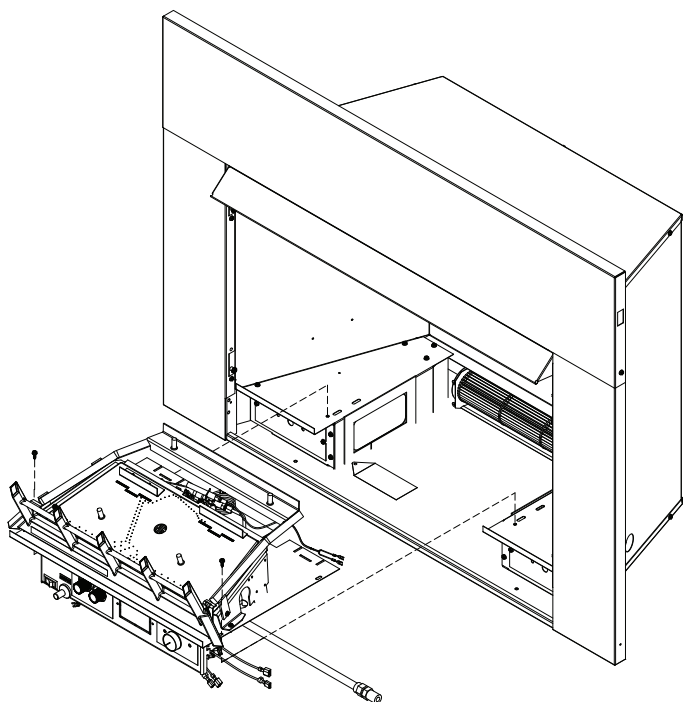
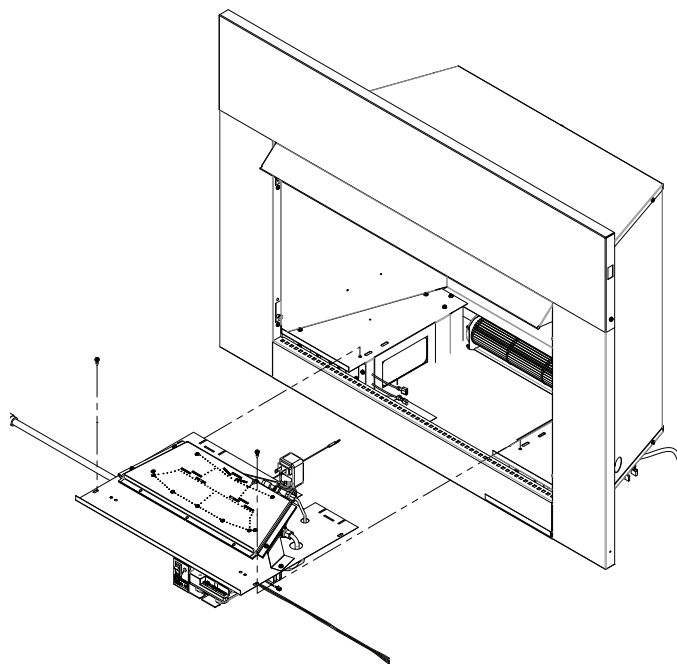

Figure 13. Remove Grate and Base Assembly (VFI33L models)
Figure 14. Remove Base Assembly (VFI33C models)
1. To remove the grate and base assembly, take out two screws as shown in Figure 13. and Figure 14.